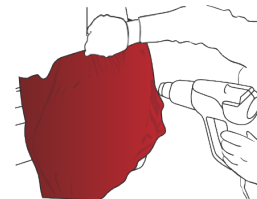

Figure 17
- › After this operation, heat to a temperature ranging from 40 °C to 50 °C (from 104 °F to 122 °F) (FIG. 17) and stretch to eliminate all folds using the squeegee.